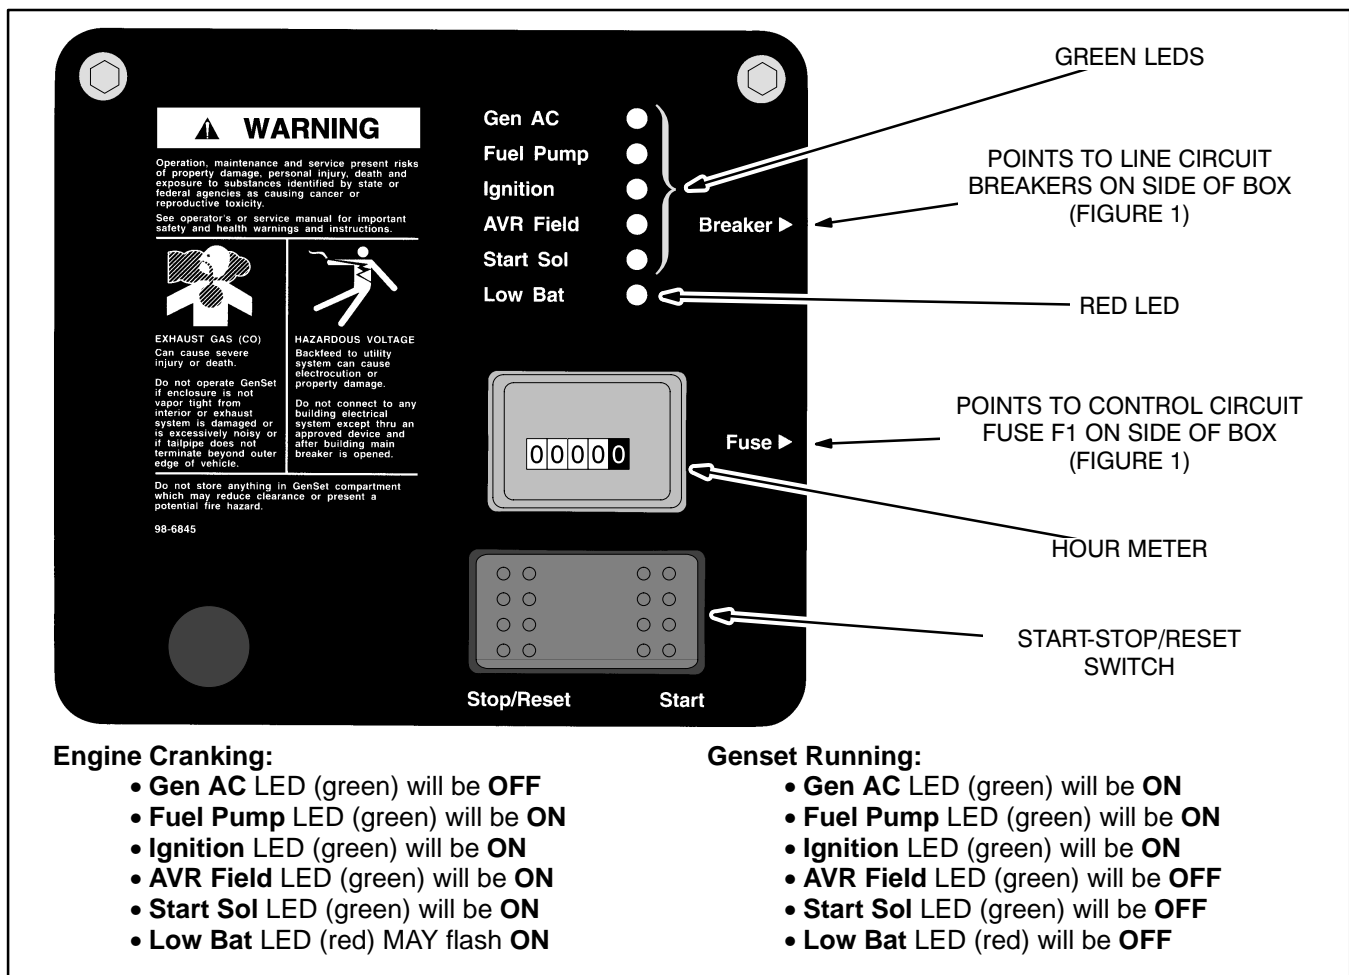

FIGURE 5. GENSET CONTROL PANEL
The genset control panel (Figure 5) and box include the following features:
3. Push and hold the genset or remote START switch (Figures 5 and NO TAG) until the genset starts.